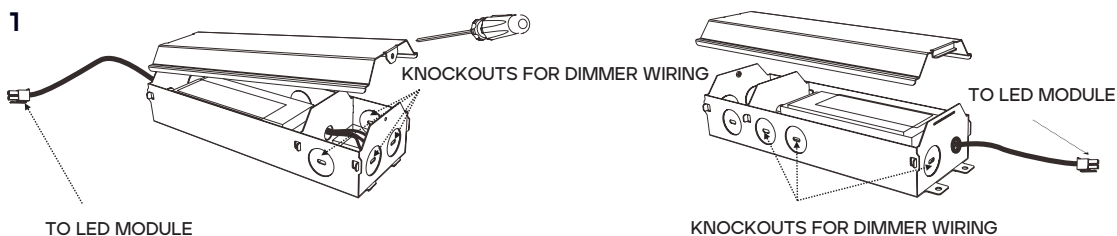

FIG. 2
8. Unscrew and remove the top ring of the LED module. (Fig. 2)